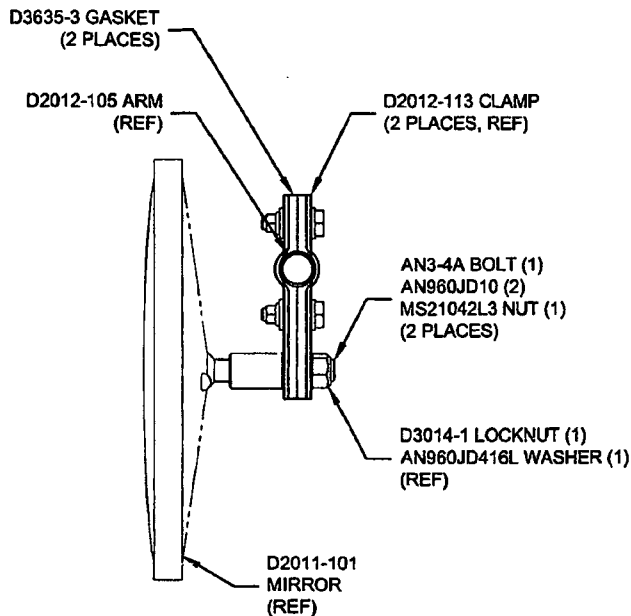

FIGURE 5: D350-561-045 INSTALLATION
- 7) IF INSTALLING THE D350-561-143 KIT, INSTALL D350-561-045 MIRROR KIT PER FIGURE 5 OF DSI 9379.